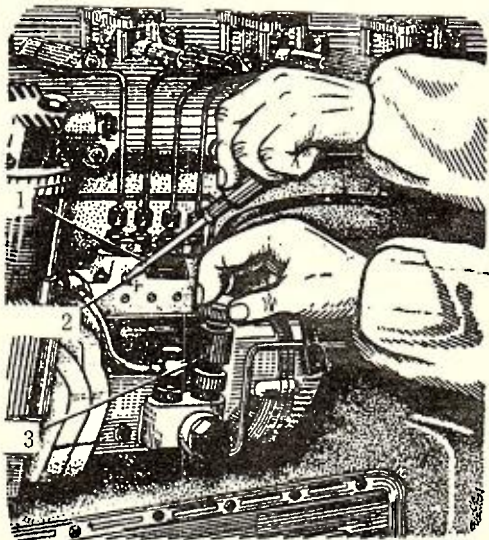

Fig. 22-1 Bleeding the fuel feeding circuit
(1) Have the engine maintained according to the "shift maintenance schedule".
(2) Open the cock of the fuel tank (on the sediment bowl).
(3) Bleed the air from the fuel feeding circuit (Fig. 22-1).